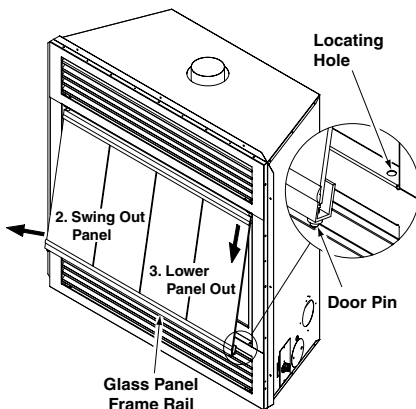

Figure 3 - Removing/Replacing Glass Door
2. Swing bottom glass panel assembly out until the door pins on the lower rail clear the bottom face frame (see **Figure 3**, page 2).